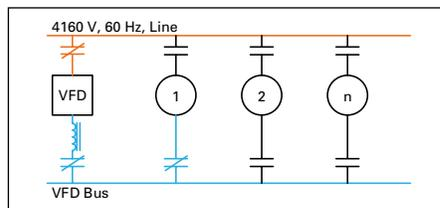

Figure 10.4-15. VFD Starts Motor #1
- VFD closes input contactor (**Figure 10.4-15**)